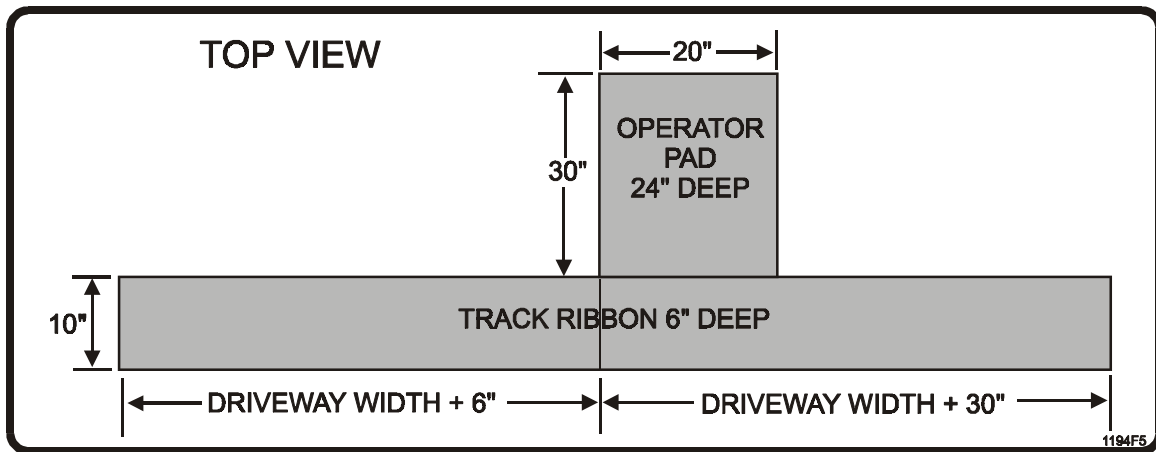

Figure 4. Pad And Track Ribbon.
1. The concrete pad must be sufficient to support the gate operator and the forces created by the moving gate. LiftMaster recommends a pad 20" wide by 30" long by 24" deep (Figure 4).